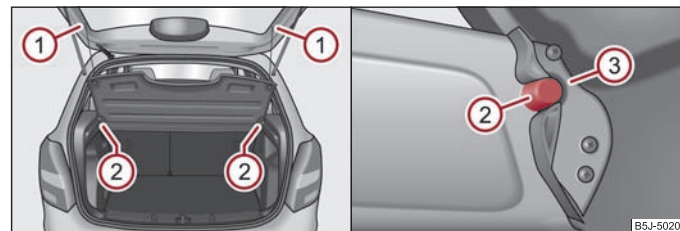

Fig. 59 Remove / install the luggage compartment cover
- Unhook the support straps ① ⇒ fig. 59.
- Remove the luggage compartment cover from the holders ② with adequate blows to the bottom side of the cover in the area between the holders.
- To re-install, place the cover on the contact surfaces of the side trim panel and position the mounts on the cover ③ above the holders ② at the side trim panel.
- Attach the support straps ① on the boot lid.